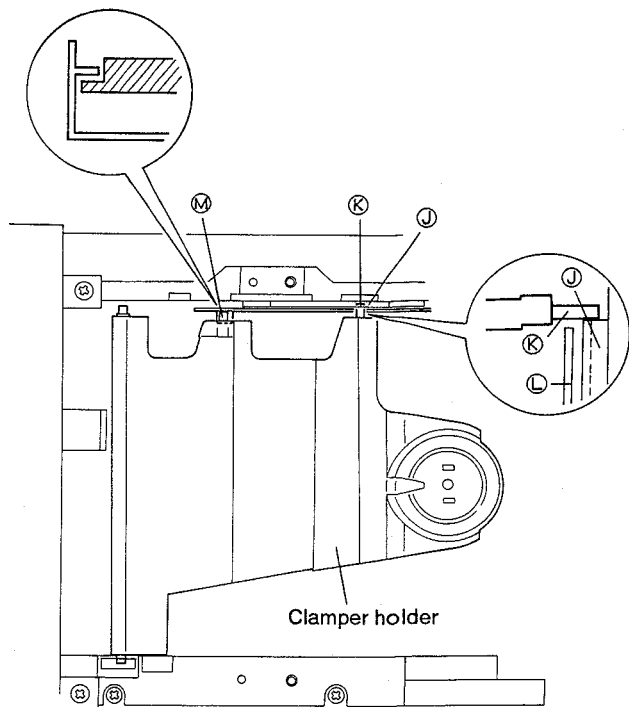

Fig. 10-18.
Only during clamping (tray at play position), clamber holder stops in the state that the ⑩ section of clamber holder is positioned over the upper surface section ⑪ of the gear on loading base, as shown in Fig 10-18.
A stopper to prevent up/down movement is attached at section ⑭ of the slid angle U in Fig. 10-18 to prevent clamber holder from moving up or down due to vibration during transport.